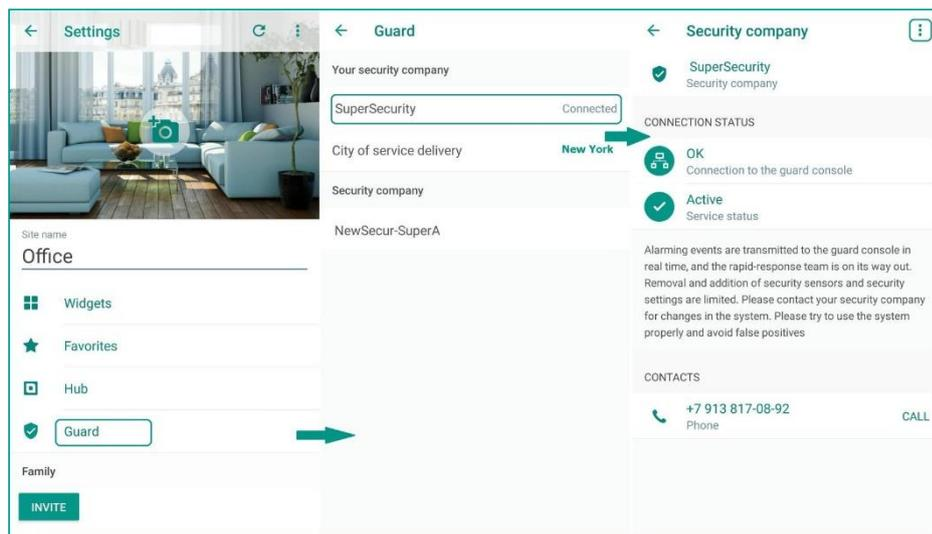

Figure 9.17 – Disconnecting from security company
1. Opens the "Guard" screen in the Livicom app, taps on the 3-dots button  in the upper right corner of the screen and select "Disconnect" in the popup menu (see figure 9.17).